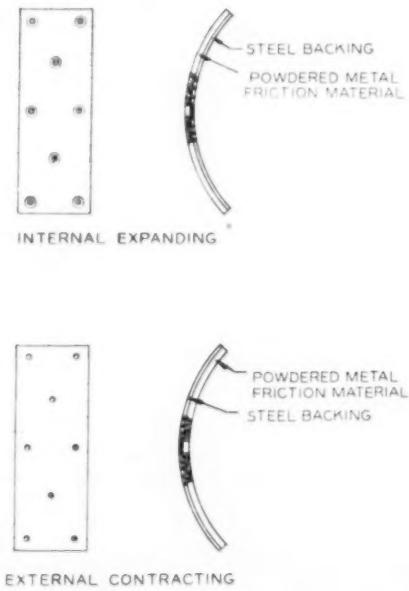

FIG. 7 CYLINDRICAL BLOCK LINING
**Blocks—Cylindrical.** This type of facing, Fig. 7, is a portion of a cylindrical surface and may be used either for external contracting or internal expanding parts, depending on whether it is